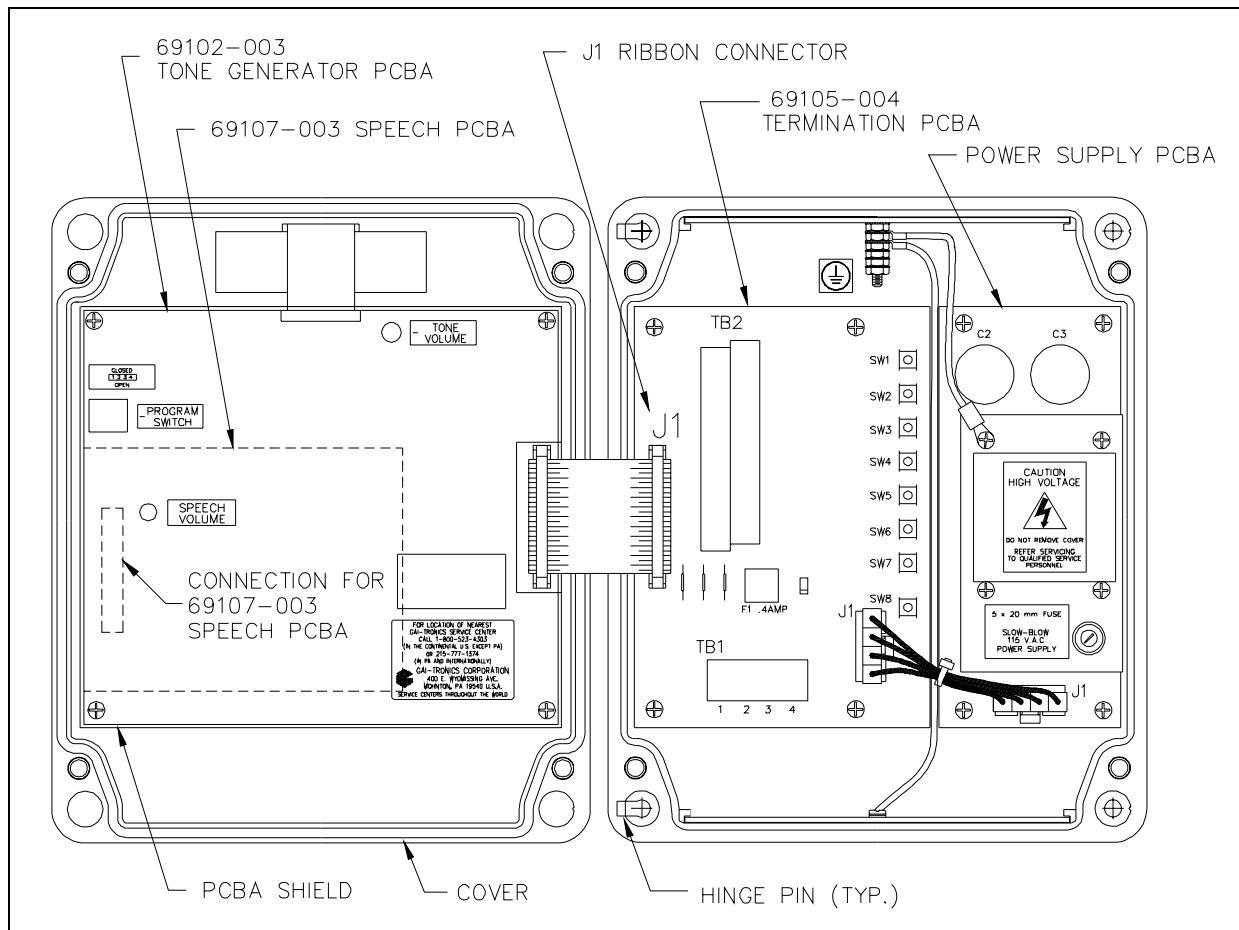

Figure 1. TS959 Outline Diagram
3. Swing the cover open and remove the ribbon cable from J1 on the 69105-004 Termination PCBA. To remove the ribbon cable from J1, push the latch eject levers on each side of the connector. Refer to Figure 1.
6. Locate J1 on the 69107-003 Speech Board Assembly, and J3 on the 69102-003 Tone Generator PCBA. Insert J3 into J1, and press the plastic standoffs on the 69107-003 Speech Board Assembly into the holes provided on the 69102-003 Tone Generator PCBA. Refer to Figure 1.